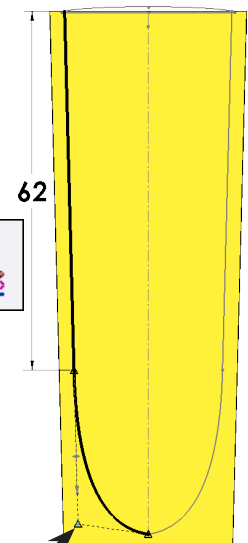

Fig. 49
Step 14. Click the **Control Polygon Handle**, **Fig. 49** and in the Spline Polygon Property set: